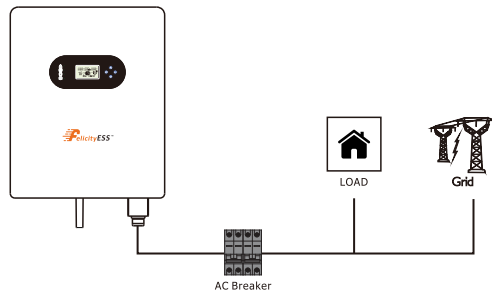

Figure 4.3-2 Ac breaker connection
1.On the AC side, the individual breaker should be connected between inverter and Grid but before loads.See Figure 4.3-2.